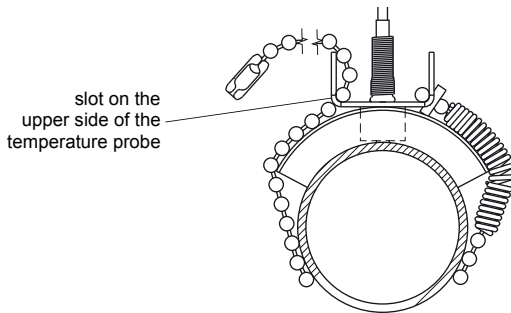

Fig. 7.3: Mounted temperature probe
- Place the chain around the pipe. Tighten the chain and insert it in the other slot of the temperature probe (see Fig. 7.3).